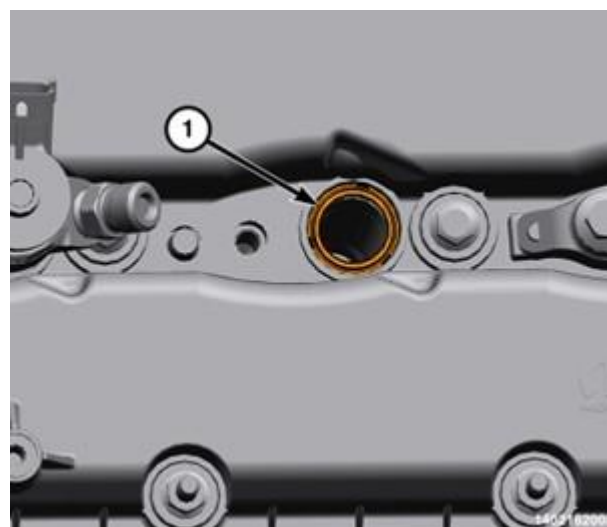

Figure 140 – Upper Sealing Washer
85. Install a **NEW** fuel injector seal (1) in the cylinder head cover (Figure 140).